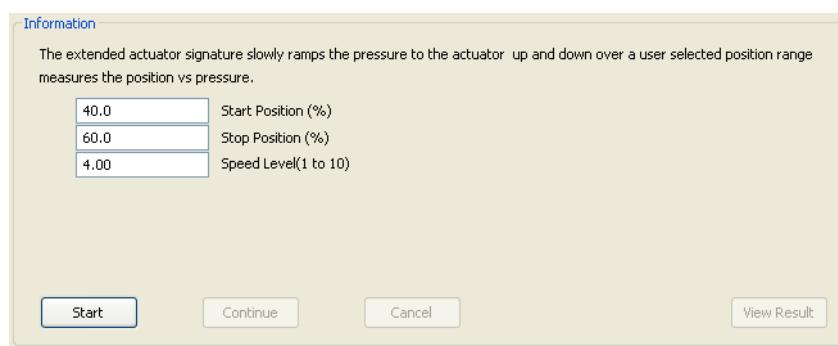

Figure 86 Information Field - Extended Act. Sig. Test
2. Click **Extended Act. Sig.** and the *Information* area appears (Figure 86).